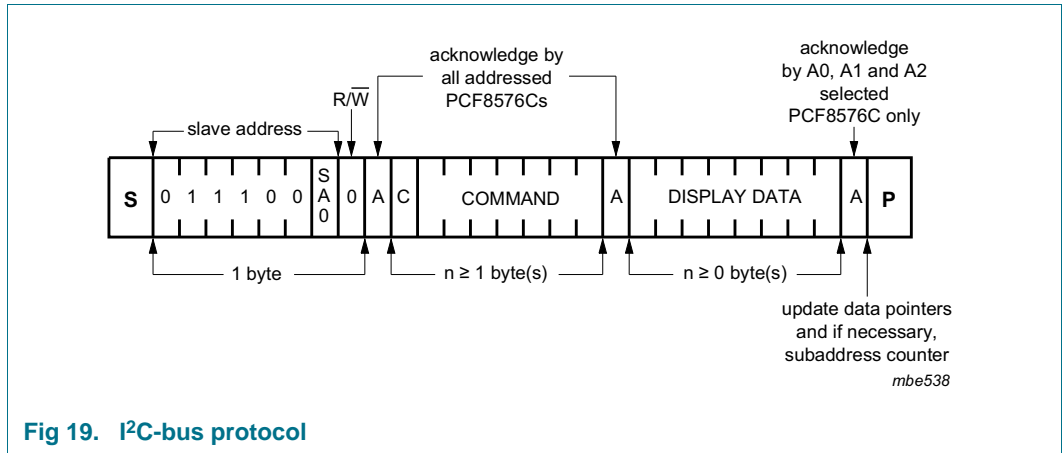

Fig 19. I2C-bus protocol
The I2C-bus protocol is shown in Figure 19. The sequence is initiated with a START condition (S) from the I2C-bus master which is followed by one of the two PCF8576C slave addresses available. All PCF8576Cs with the corresponding SA0 level acknowledge in parallel with the slave address but all PCF8576Cs with the alternative SA0 level ignore the whole I2C-bus transfer.